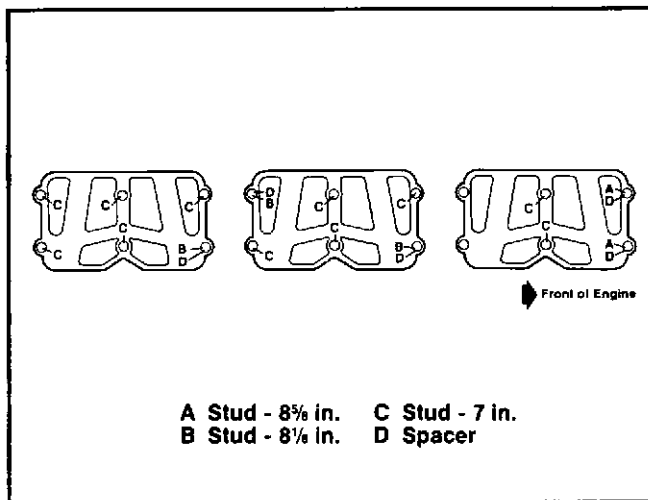

Fig. 20-4. Locations For The Stud And Spacer In The Rocker Lever Housings.
the longest studs into the rocker lever housing nearest to the front of the engine. See Fig. 20-4 to find the correct location for the studs.
17. Install the Jacobs Brake units onto the rocker lever housings. Install the spacers and nuts onto the studs. See Fig. 20-4 to find the correct locations for the spacers.